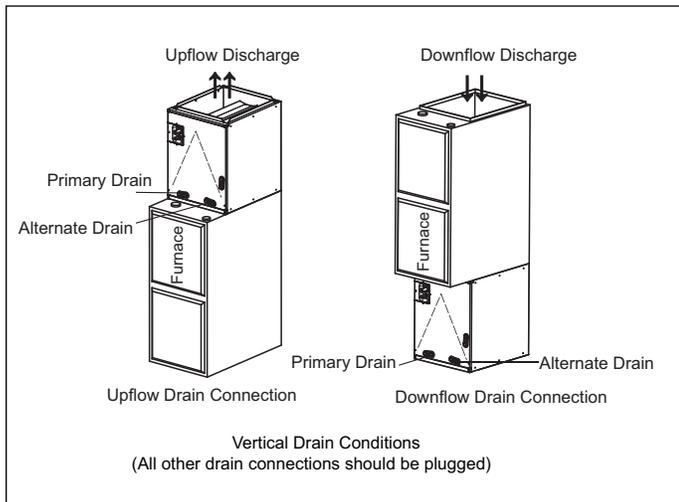

Figure 4
1. See Fig. 4 & 5 for coil installation and drain connection.
See Figure 4 & 5. In case that coil and furnace sizes are not matched, use proper size of sheet metal or other material to fill the gap and seal the gap to prevent air leak.
The cased coil should be installed with the front of the cased coil facing the front of the furnace (see Figures 4 & 5). This ensures proper airflow through the coil and allows for optimal serviceability of the TXV, coil cleanings, and coil removal. In some applications where the cased coil must be installed 180 degrees from the front of the furnace (facing the back), proper airflow directed through the coil will still be maintained. However, serviceability of the TXV, coil cleaning, and coil removal may be difficult unless access to the rear of the furnace is provided.